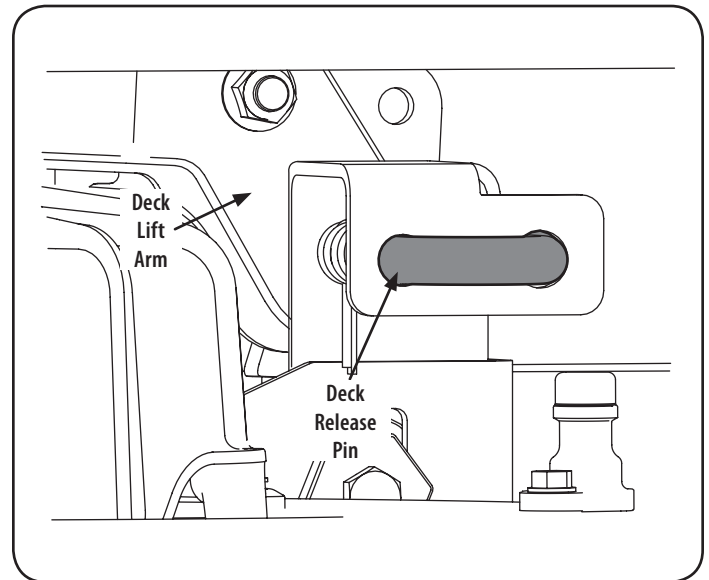

Figure 34
8. Locate the LH and RH deck release pins on each side of the deck. Pull the release pins outward and release the deck from the LH and RH deck lift arms. See Figure 34.
4. Pull the deck release pins outward and maneuver the deck as necessary to align the holes in the deck lift arms with the pins. Refer to Figure 34.